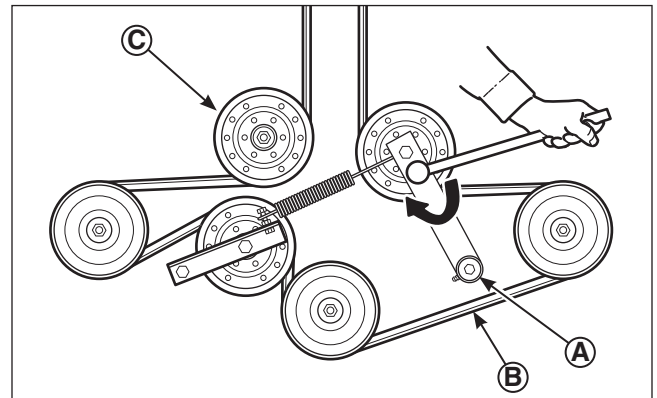

Figure 1. Removing the Mower Deck Drive Belt
4. Using a 1/2" breaker bar, place the square end in the square hole located in the end of the idler arm (**A, Figure 1**). Carefully rotate the breaker bar **clockwise**, which will relieve the tension on the belt exerted from the idler arm.